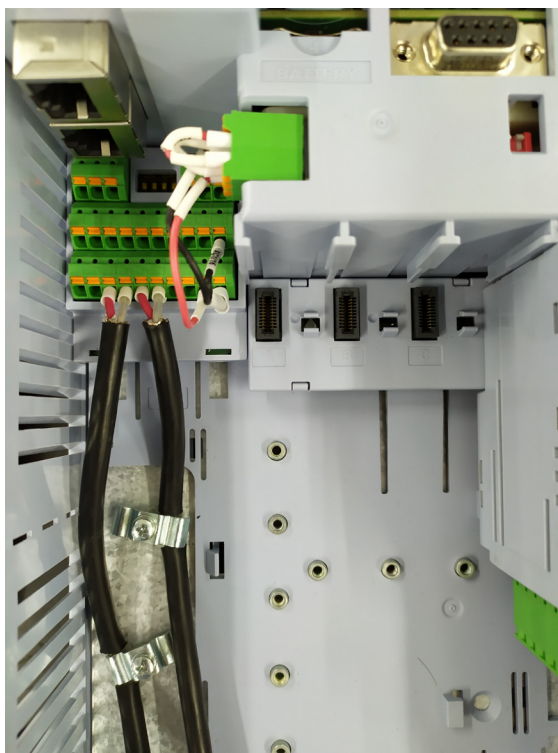

Figure 3.33: Connection example of control cable shield
- Correctly ground the shield of the cables, using the shield connection in 360°, as shown in Figure 3.33 on page 59.
2. Shielded output cables (motor cables) with the shield connected on both sides, motor and inverter, with low impedance connection for high frequency; for example, see Figure 3.33 on page 59. Keep the separation from the other cables according to Table 3.10 on page 51. For more information see Item 3.2.4 Power Connections on page 46. Maximum motor cable length and conducted and radiated emission levels according to Table 3.19 on page 63.